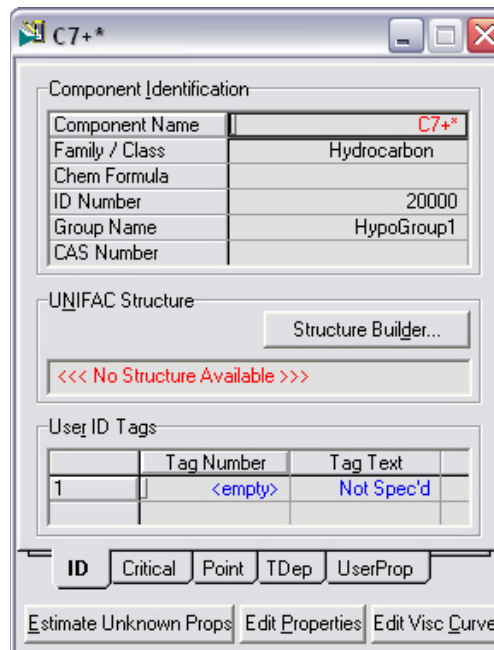

**Figure 4-1**
- On the **Connections** tab, add a Compressor and enter the following information as shown in Figure 4-1: